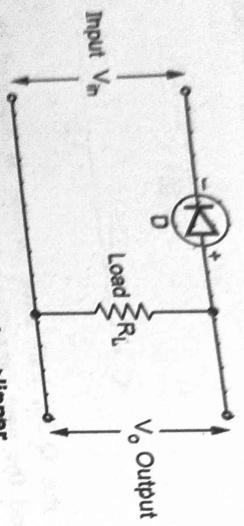

Fig. Q.41.1 Positive series clipper
- The Fig. Q.41.1 shows positive series clipper circuit in which diode direction is opposite to that in negative series clipper.